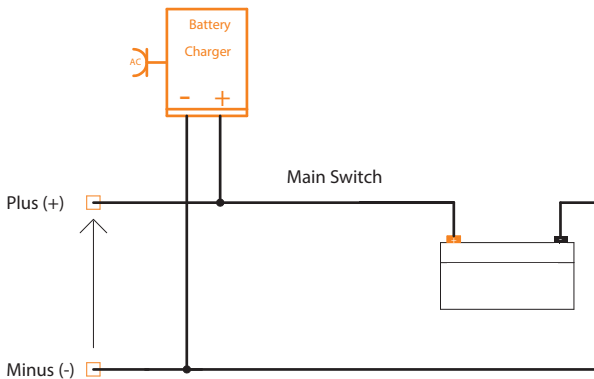

Figure 5. Connecting a charger to the Li-ion battery.
5. Connect the charger to the Li-ion battery (Figure 5).